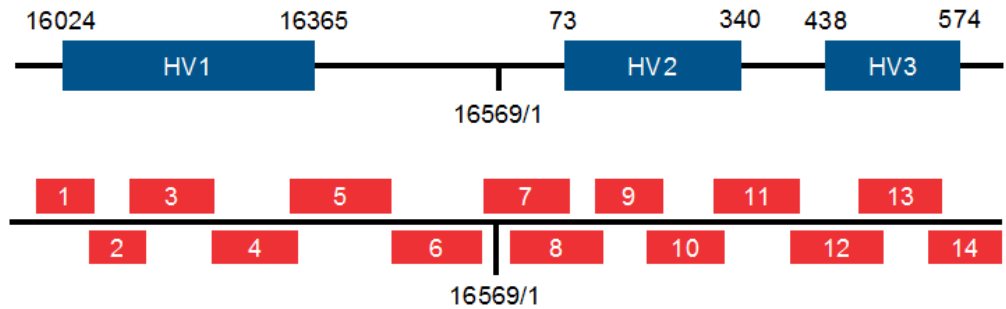

Figure 2 The Hypervariable Regions of the mtDNA Control Region and insert locations of the Precision ID mtDNA Control Region Panel.
The Precision ID mtDNA Control Region Panel only targets the Mitochondrial Control Region. This panel targets positions 15954–610 of the Control Region. The Control Region contains the non-coding Hypervariable (HV) Regions I, II, and III (see Figure 2). Each pool contains 7 primer pairs to produce a total of 14 amplicons. This panel also contains degenerate primers to account for primer-binding SNPs.